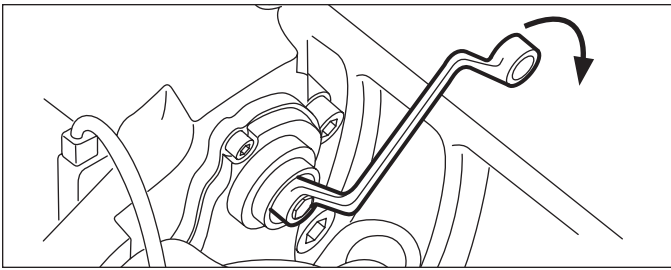

Figure 14 – Clockwise Rotation
5. Using a 10 mm, six-point box wrench, turn the shear adapter clockwise until the pads contact the rotor. Note: Do not use an open-ended wrench as this may damage the adapter. (See Figure 14).